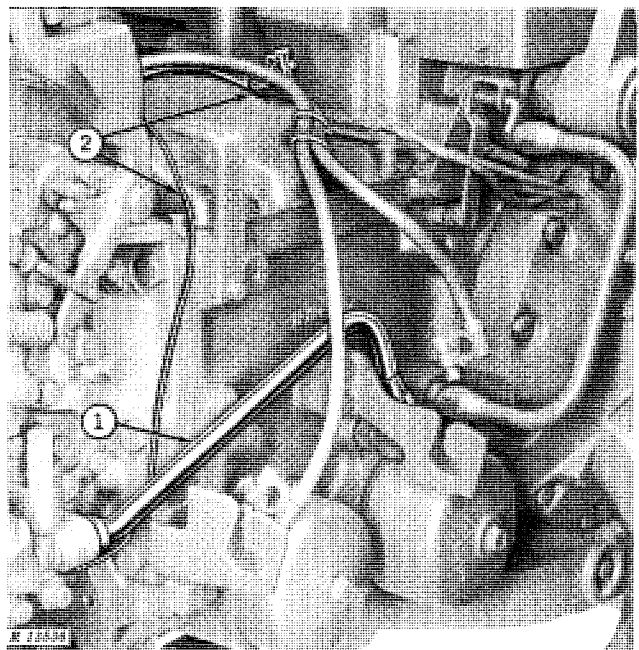

Fig. 8 - Left-Hand Side Transmission Case
1. Remove hydraulic filter outlet pipe (Fig. 8).